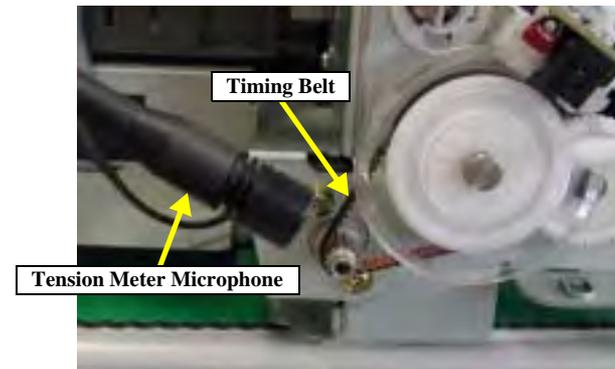

Figure 5-5. PF Belt Tension Adjustment
7. The microphone surface will approach the center of belt tension as near as possible. (See Figure 5-5)
9. Grasp the Timing Belt with the tip of a pair of tweezers and pull the belt downwards to pluck it. (See Figure 5-5) The “----” straight line in the LCD will change as though impacting a wave, a high-pitched beep will notify of the measurement results and an “N” will appear in the LCD. Regardless of the force used to pluck the Timing Belt, the instrument is able to measure by accurately picking up the acoustic tone, and the results are displayed in “N” units (Newton).